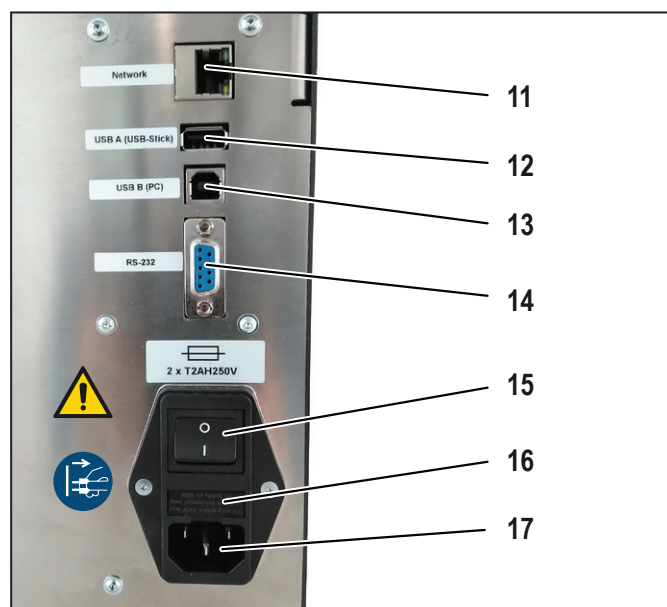

Figure 3.2 Rear view
- Insert the mains connection cable into the mains socket (Figure 3.2, 17) of the machine and connect it to the power supply.
- Connect the machine to a computer via a USB cable (Figure 3.2, 13).
- Connect the machine to a network via an Ethernet cable (Figure 3.2, 11).
► Switch on the machine (Figure 3.2, 15).